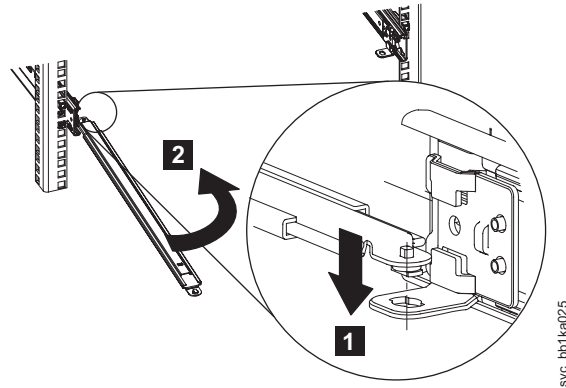

Figure 16. Rack rear: Attaching the SAN Volume Controller 2145-CF8 cable-management support arm
1. At the rear of the rack, connect one end of the support arm, as shown by **1** in Figure 16, to the same slide rail to which you plan to attach the cable-management arm so that you can swing the other end of the support arm **2** toward the rack.